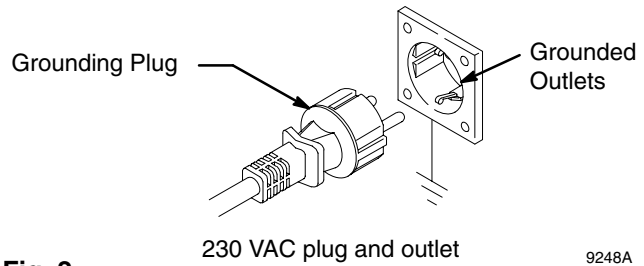

Fig. 2
1. The 232918, 232665, 232915, 232914 require a 230 VAC, 50 Hz, 10A circuit with a grounding receptacle. The 232919 requires a 120 VAC, 50/60 Hz, 15A circuit with a grounding receptacle. The 232916, 232917 require a 100 VAC, 50 Hz, 15A circuit with a grounding receptacle. The 232910 – 232913 require 120 VAC, 60 HZ, 15A with a grounding receptacle. See Fig. 2.